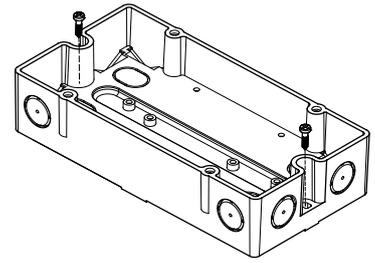

Fig. 4
3. Mount the housing on an even surface with two M4 screws (Fig. 4). Distance between holes: $182.0 \pm 1.0\text{mm}$.